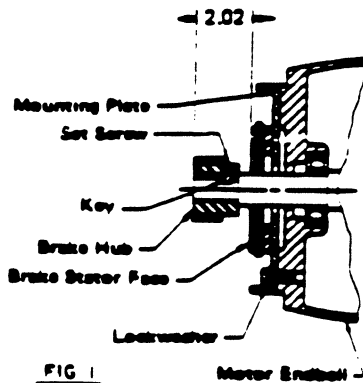

FIG 1
Position brake hub (915) on motor shaft (see Fig. 1 for installation location). Tighten set screws.